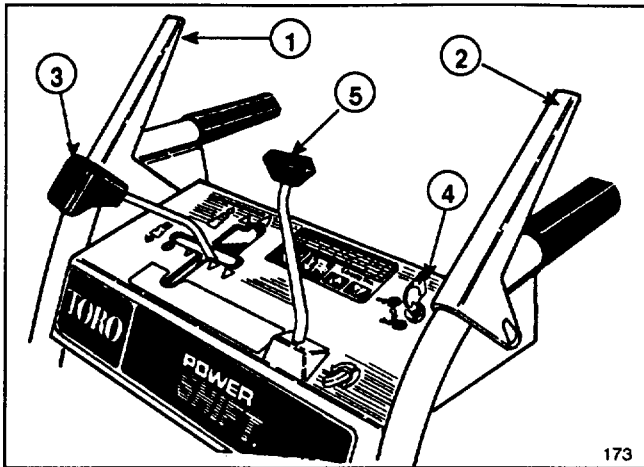

Figure 9
Auger/Impeller Control (Fig. 9)—Control has two positions: ENGAGE and DISENGAGE. To engage auger and impeller, compress lever against right handle grip. To disengage, release lever.
Traction Drive Control (Fig. 9)—To engage traction or activate power shift system, lever must be compressed against left handle grip. To stop traction, release lever.
Speed Shift Control (Fig. 9)—The control has four speeds forward and two reverse and also controls power shifting of wheels. To select speeds, move shift control to desired position.
Auger Lock-Up (Fig. 9)—When auger/impeller control and traction drive control are both compressed, the traction control locks the auger/impeller control down. Releasing the traction control releases the auger/impeller.
Discharge Chute Control (Fig. 9)—Rotate discharge chute control clockwise to move discharge chute to the right and counterclockwise to move chute to the left.
Ignition Switch (Fig. 9)—Switch has two positions: ON and OFF. Rotate key to ON position before starting engine. To stop engine, rotate key to OFF.
1. Move speed shift control to N (neutral) and throttle to FAST (Fig. 9).
4. Rotate ignition key to ON (Fig. 9).
1. Release traction and auger/impeller drive controls (Fig. 9).